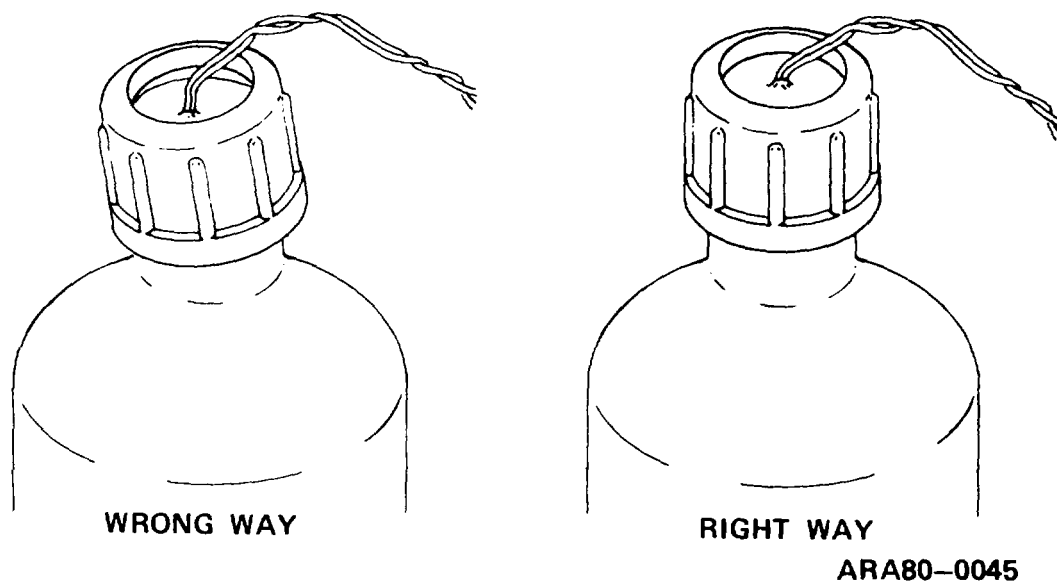

Figure 2-6. Proper Installation of Screw Cap.
Make sure bottle is tightly sealed. Figure 2-6 shows the right and wrong ways of putting the cap on the bottle.
(7) Press actuating charge down through neck of bottle until flange of charge sets firmly on O sealing ring.
(8) Thread leads through screw cap.
(9) Screw cap firmly down to seal bottle and actuating charge (fig. 2-6).